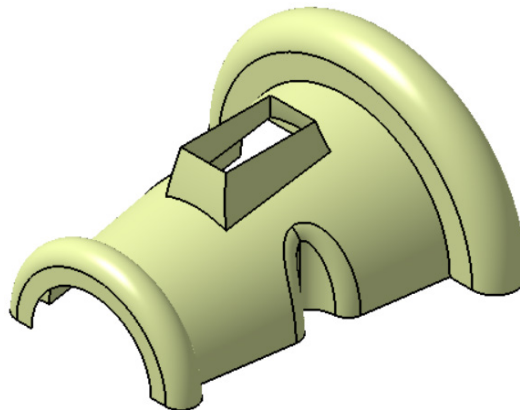

Figure 17-97 Model after trimming the base surface
4. Select the sketches and the projection you created for the loft feature and choose **Hide/Show** from the shortcut menu to hide the selected sketches. Figure 17-97 shows the model after the base feature has been trimmed by using the lofted surface.